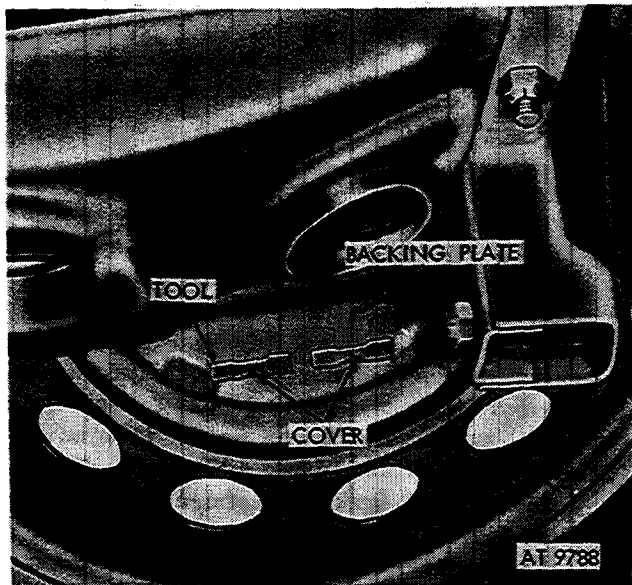

Figure 2-367. Backing plate adjusting hole cover.
- (1) Jack up wheel until tire clears ground.
- (2) Pry cover from adjusting hole in backing plate (fig. 2-367).